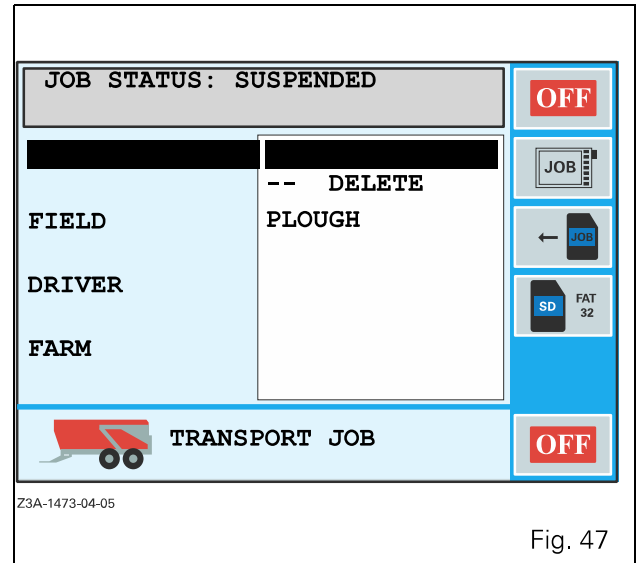

Fig. 47
- Press ESC to validate the name. The window (Fig. 47) is displayed.
- When the window (Fig. 47) is displayed, select a name using the encoder (Fig. 49).